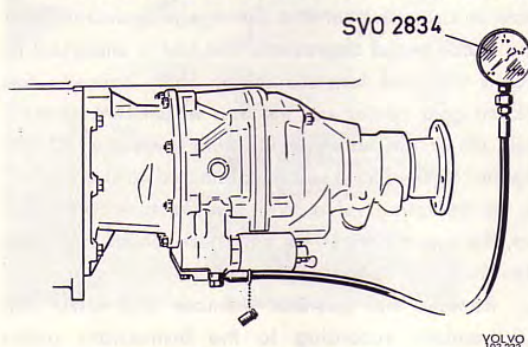

Fig. 17. Checking the oil pressure
1. Remove the plug under the operating valve and connect the oil pressure gauge SVO 2834, see Fig. 17.